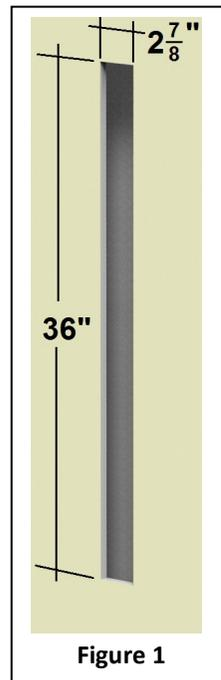

Figure 1
Step 2. Cut opening in wall. See Figure 1. Opening should be 36" x 2-7/8" for proper fit.